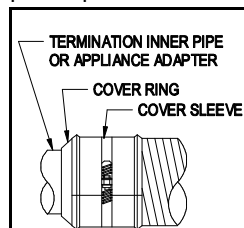

Figure 10
9. Maintain the appliance manufacturer's clearances to combustibles. If the appliance collar is within 18" of combustible material, wrap minimum 1-1/5" ceramic insulation (installer-supplied) around the exposed portion of the termination inner pipe and appliance adapter (Figure 10).
9. Slide the cover sleeve and cover ring together to engage the ring in the groove of the sleeve, and tighten the cover sleeve clamp (Figure 10).
10. To maintain 1" clearance to combustibles, wrap minimum 1-1/5" thick ceramic insulation (installer-supplied) around the exposed portion of the termination inner pipe (Figure 10), and secure with foil tape (installer supplied).